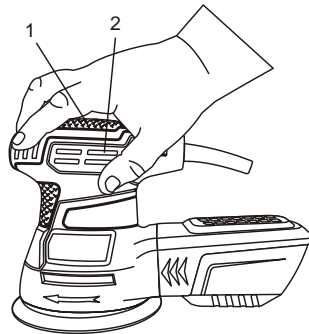

Fig. 9
NOTE: Hold the sander with one hand on the hand grip (1) on top of the sander (Fig. 9). Be careful NOT to cover the cooling vents (2) with your hand. Covering the cooling vents could cause the motor to be damaged by overheating.